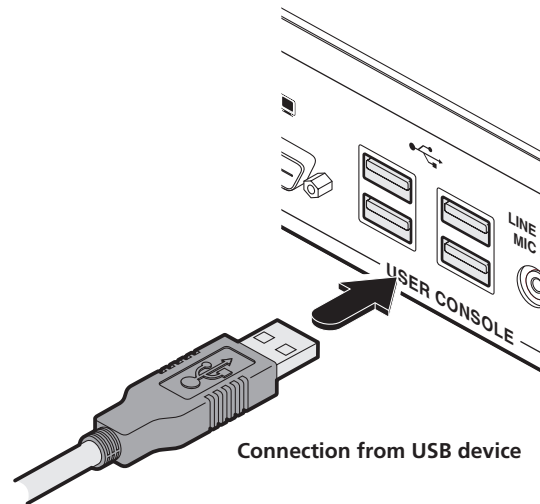

Figure 3-21. Connecting a USB device to the remote receiver unit.
- 1 Connect the lead from the device to any of the four USB sockets on the rear panel of the ServSwitch Agility unit. See Figure 3-21.